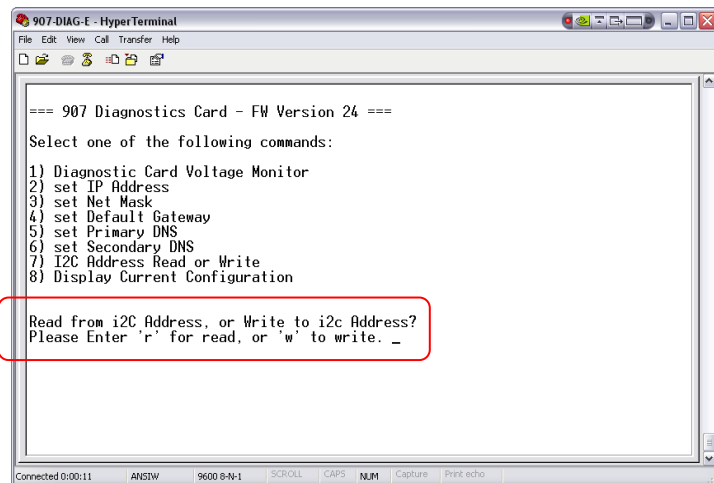

Figure 4-16: I2C Register Write Menu
Figure 4-16 and Figure 4-17 show how to use the RS-232 interface to directly write I2C values to cards in the console stack. First, select menu item 7, then enter in “w” to write. When prompted, enter in the I2C address to write to, followed by the start-byte, the number of bytes to write, followed by the bytes. Ensure the start-byte plus the number of bytes to write does not exceed 256. Also ensure the register fields you have attempted to write to have write permissions.